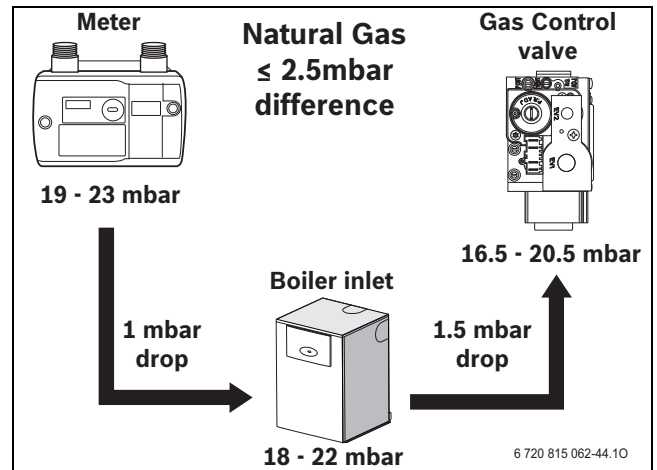
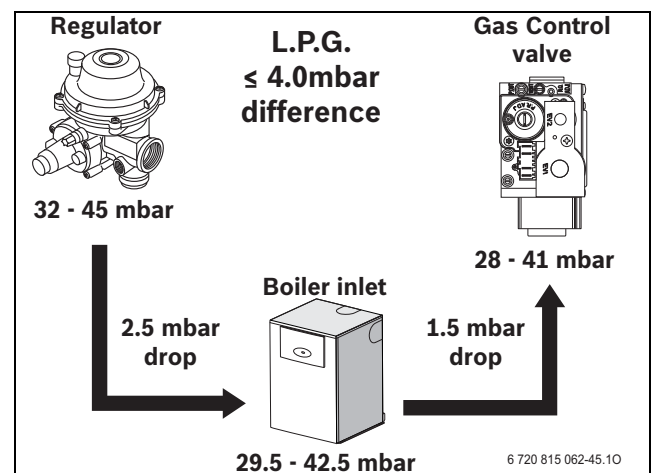

Fig. 36 Natural gas pressures
Fig. 37 L.P.G. pressures
- ▶ Check the gas supply working pressure at the gas valve conforms to values shown in figure 36 or figure 37.